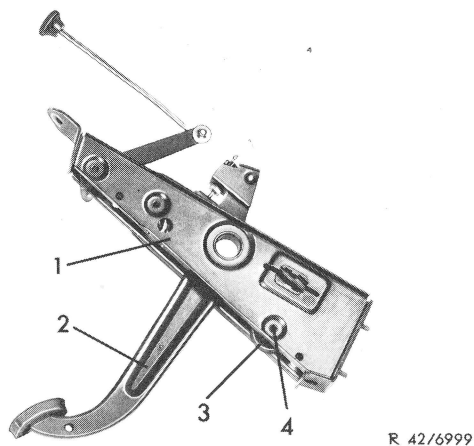

Fig. 1
2 Remove rivets on both sides of bearing tube (4) by means of an 8.2 mm drill (Fig. 1).